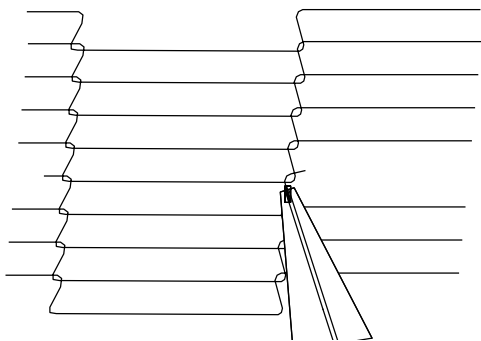

Figure 4-30.
6. Reconnect the inside master links (Figure 4-30.)